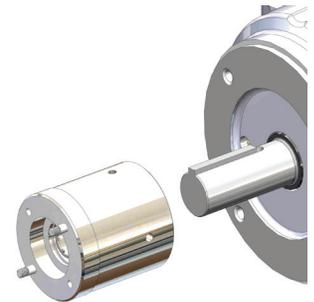

figure 1
**⚠ Magnetic Force Hazard.** This pump should only be disassembled and assembled using the recommended procedures. The magnetic attraction is powerful enough to rapidly pull the motor end and the wet end together. ALWAYS use the jackscrews (item 14) to assemble/disassemble the pump. Do not place fingers between the mating surfaces of the motor and wet ends to avoid injuries. Keep the drive magnet and impeller assembly away from metal chips or particles.
- B. Place the motor adapter flange into position on the motor face using supplied hardware (item 28 & 29). Torque to 90 ft-lbs.
- A. Slide shaft adapter onto motor shaft until end of shaft is firmly against retaining ring. *See figure 1.* The shaft adapter is held to a tight tolerance with motor shaft. It may be necessary to tap the shaft adapter into position using a dead blow hammer or heat it with an oven/induction heater to around 180° F (82° C).